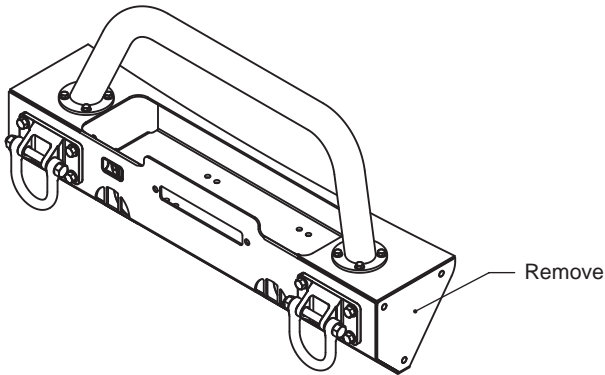

Figure 1a
1. Storage Ends are easier to install with the Center Section of Modular XHD Bumper off of the vehicle, but can be installed with the Center Section already installed. If Storage Ends are replacing previously installed Stubby Ends (Figure 1a), remove them so that empty ends remain (Figure 1b).